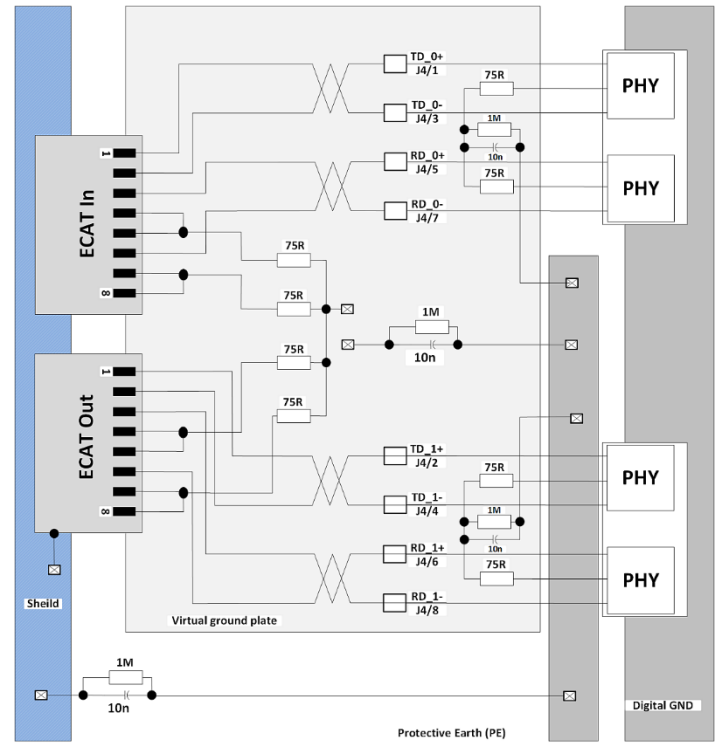

Figure 20: EtherCAT Layout Guideline
In order to ensure signal quality in the EtherCAT In and EtherCAT Out paths between the RJ45 connectors and the EtherCAT connector, the following layout guidelines should be followed (refer to Figure 20).
- ❑ Include a virtual ground plate, upon which the ECAT RJ45 connectors reside, which contains the traces and required termination circuitry as depicted in Figure 20.
Traces must be kept to minimal lengths, each pair should be twisted and separated from others, and the structure must be kept as symmetrical as possible. Termination circuitry, as shown in Figure 20, should be placed as close to the RJ45 connectors as possible. Ensure minimal 1mm separation between the shield plate to Virtual ground plate, and between the Virtual ground plate to the digital ground.